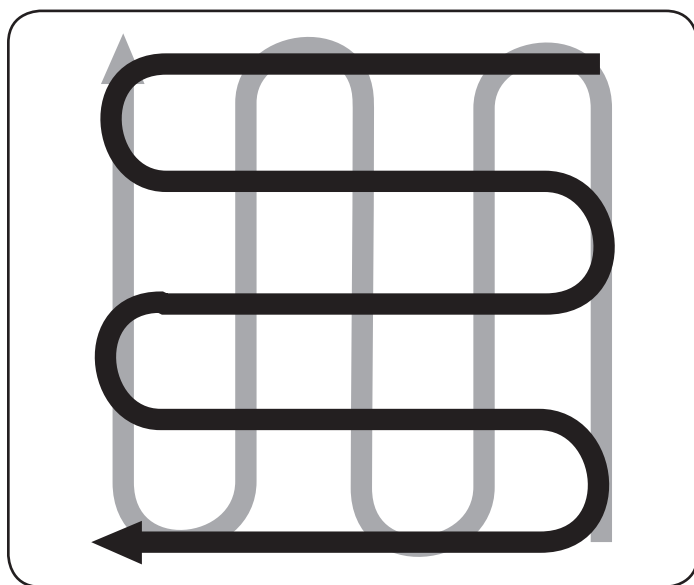

Figure 19
- When finished in one direction, make a second pass at a right angle, See Figure 19. Overlap each pass for the best results (in very hard ground, it may take three or four passes to thoroughly pulverize the soil).